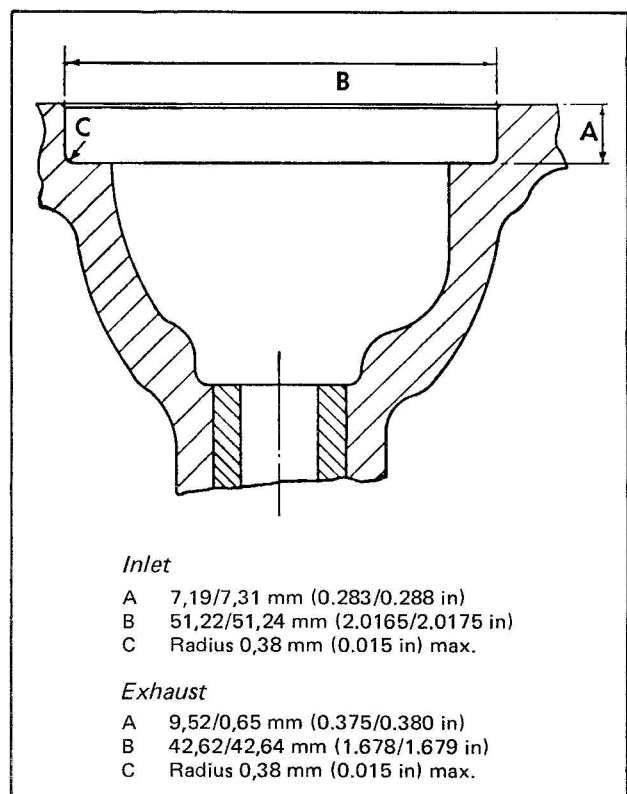

Fig. 8
1. Using the new valve bore as a pilot, machine the recess in the cylinder head face to the dimensions in Fig. 8.